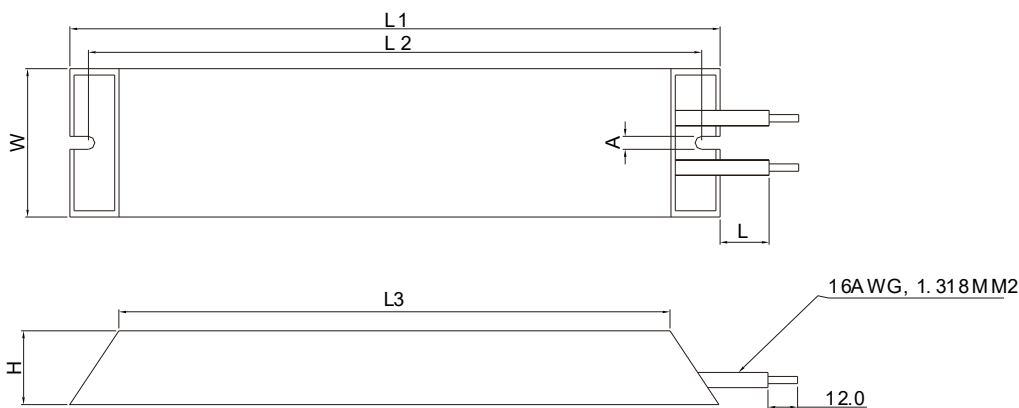

Figure 7-2
1.2 Aluminum housed resistors: For below 1000 W, refer to the following appearance of aluminum-housed resistor (Figure 7-2) and its model and specification comparison table (Table 7-6) for details.